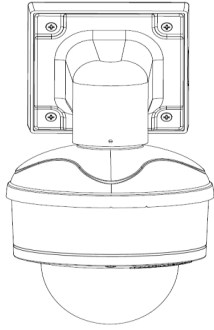

Figure 6
- Attach the Dome Cover to the MegaDome® UltraHD camera and fasten securely four captive screws as shown in Figure 6.